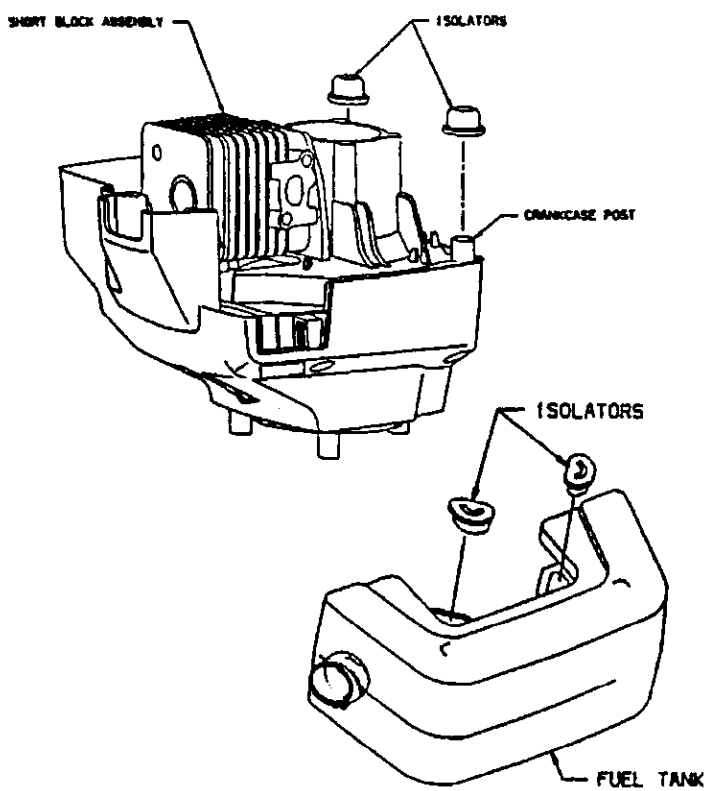

FIGURE 16
- A. ASSEMBLE ROUND ISOLATORS INTO FUEL TANK AND PLACE ASSEMBLY ON CRANKCASE BOSSES AS SHOWN IN FIGURE 16.
- B. ASSEMBLE TRIANGULAR SHAPED ISOLATORS INTO FUEL TANK AS SHOWN IN FIGURE 16.